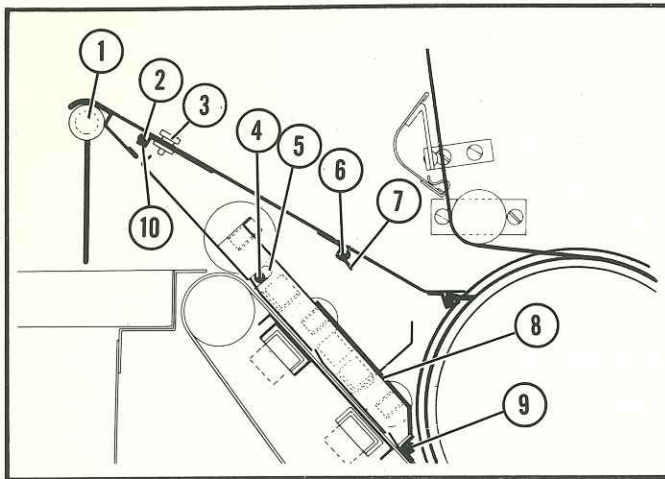

Figure 9. Installation Diagram
Slide the entire assembly (8, Figure 9) into the front of the machine until the leading edge hooks onto the retaining studs (9). Next, lower the rear of the unit until the notches (5) in the endplates engage the supporting studs (4).
Slip the tracing guard unit (1, Figure 9) into position with the floating collar (rubber side left) toward the hole on the inner side of the left control panel. Insert the spring-loaded end, identifiable by the protruding locking screw, into the corresponding hole in the side of the right control panel. Push the entire assembly toward this side, while simultaneously locating the pin in the left side hole. Release the pressure and the unit will seat in position.
Using Figure 9, slip this assembly into position so that the brackets (7) on the underside of the unit engage the studs (6) on the sideplates. Allow the edge nearest you to rest on the rear set of studs (2). Loosen the thumbscrews (3), while sliding the locks (10) toward you until they engage the studs. Then, with the unit in position, tighten the thumb screws.
When running long rolled tracings, swing the tracing guard assembly (1, Figure 9) until the fingers are vertical to the feedboard surface. Be sure the leading edges of your tracing and Copyflex paper are under the fingers. Let the rolled up portion rest against the unit and the tracing will then automatically unroll.